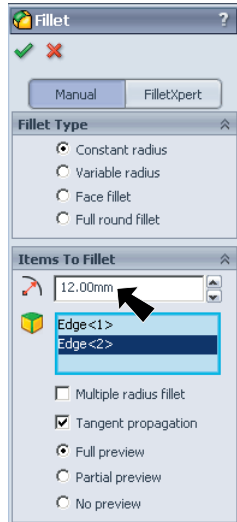
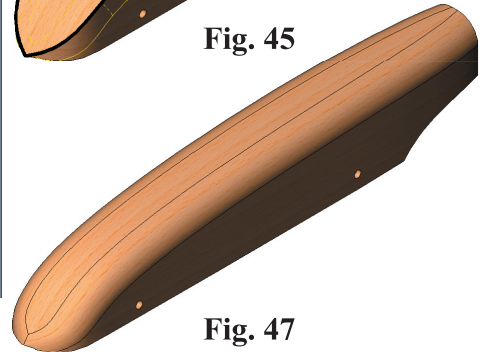

Fig. 46
Fig. 47
Step 4. Set the **Radius**  to **12** in the Fillet Property Manager and click **OK** , **Fig. 46** and **Fig. 47**.